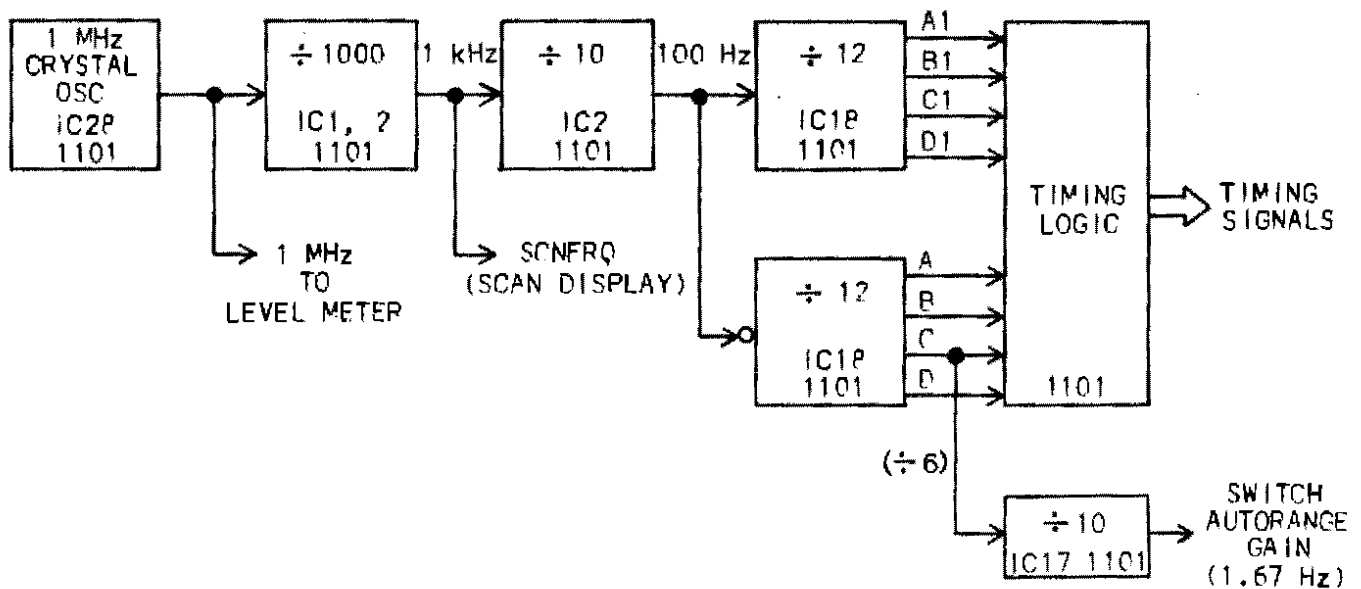

Fig. 6
D. Timing Generator (Figure 6)